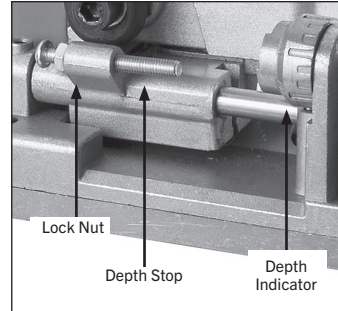

Fig 11. Location of cutting depth adjustment components.
- If measurement does not equal 10mm, loosen depth stop lock nut (see Figure 11).